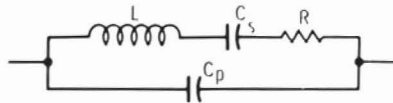

Fig. 5-10. Crystal equivalent circuit.
**Crystal Characteristics**—The electrical equivalent circuit of the crystal is shown in Fig. 5-10. The equivalent circuit consists of a resistance  $R$ , an inductance  $L$ , and a capacitance  $C_s$ . The capacitance labeled  $C_p$  is the stray capacitance across the terminals of the crystal. The crystal is drawn on schematics with the symbol shown in Fig. 5-11.